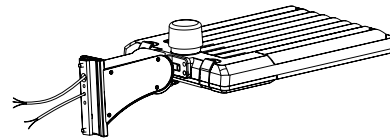

Figure 4
Step 2: Install the bracket on the fixture, then cover the side lid and tighten it. (Fig. 4)